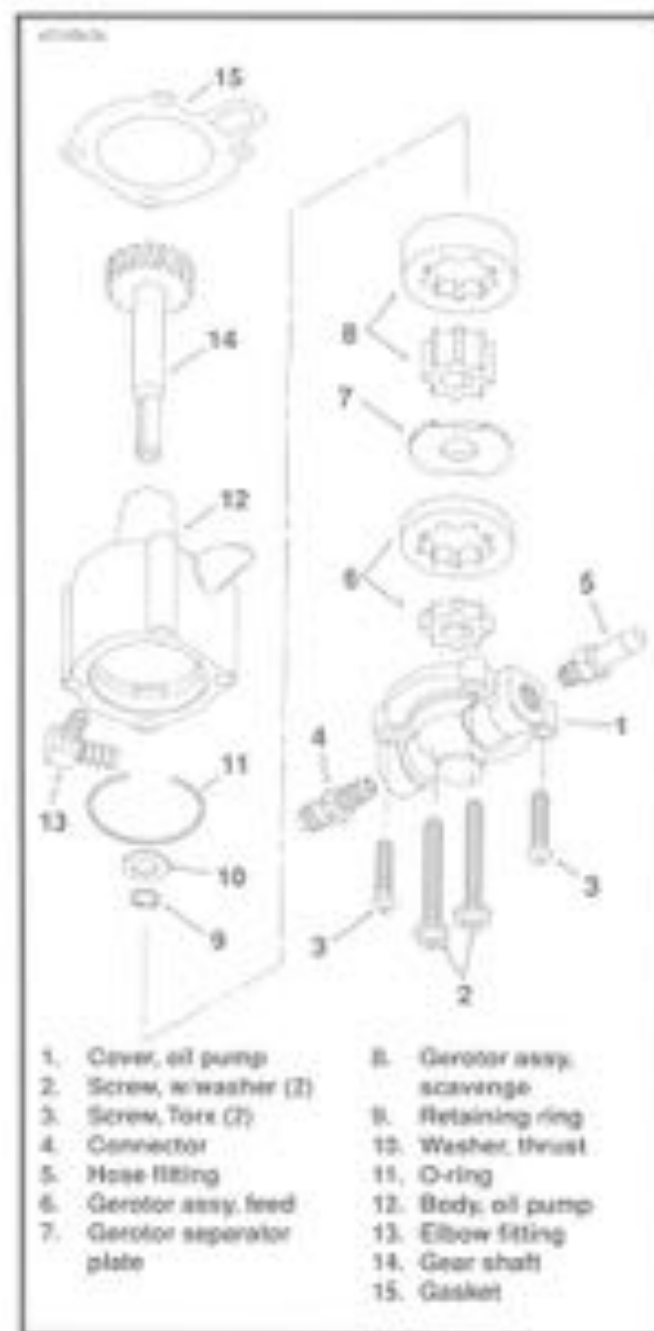

Figure 3-55. Oil Pump
2. During the next 180° of rotation, the size of the cavity decreases forcing oil into the outlet. See Figure 3-55.
3. See Figure 3-55. Carefully remove two screws (2) that secure pump to crankcase. Pump will drop with screws removed. Discard mounting gasket (15).
4. Remove two Torx screws (3). Lift cover (1) off body (12). Remove and discard O-ring (11).
5. Slide both pieces of feed gerotor set (6), separator plate (7) and both pieces of scavenge gerotor set (8) off gear shaft (14).
6. Remove and discard retaining ring (9). Remove thrust washer (10) and gear shaft (14).
1. See Figure 3-55. Install gear shaft (14) through body (12). Position thrust washer (10) over end of shaft. Install new retaining ring (9) into groove in shaft.